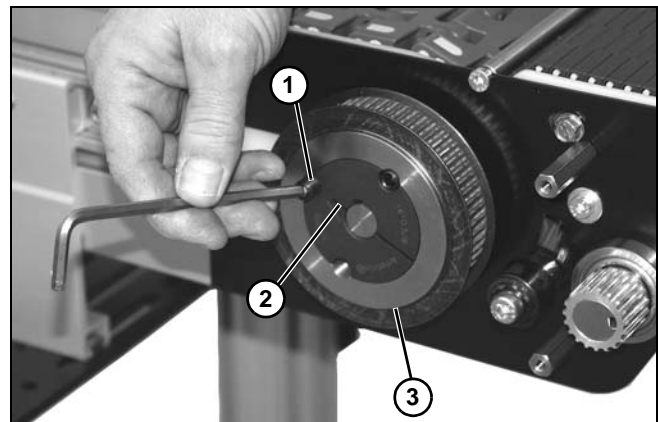

Figure 114
5. Install set screw (**Figure 114, item 1**), into hole aligned with slot (**Figure 114, item 2**) in pulley (**Figure 114, item 3**).
6. Remove pulley (**Figure 114, item 3**).